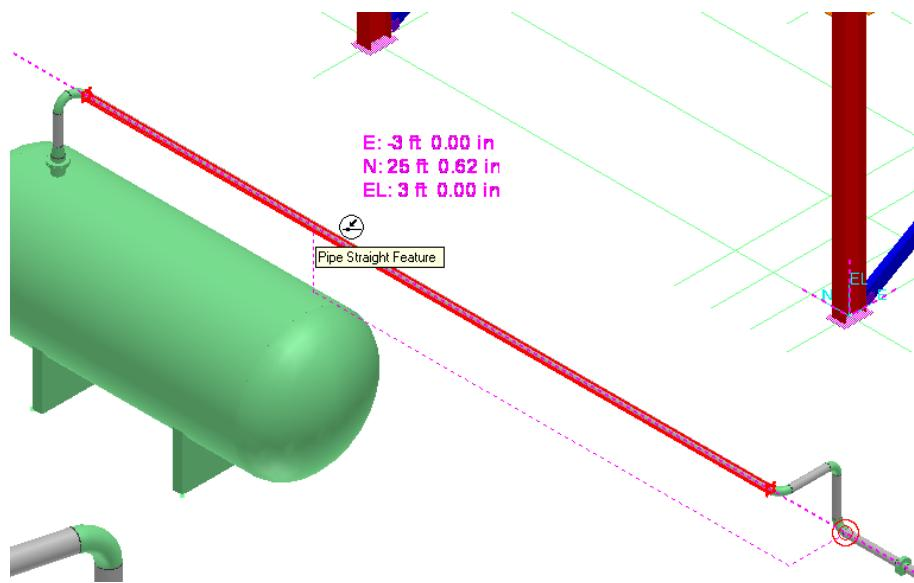

Figure 10: Pipe Straight Feature of 400-P Pipeline
40. Select the **Pipe Straight Feature** of a pipe run to specify the pipe where you want to insert splits, as shown in Figure 10.